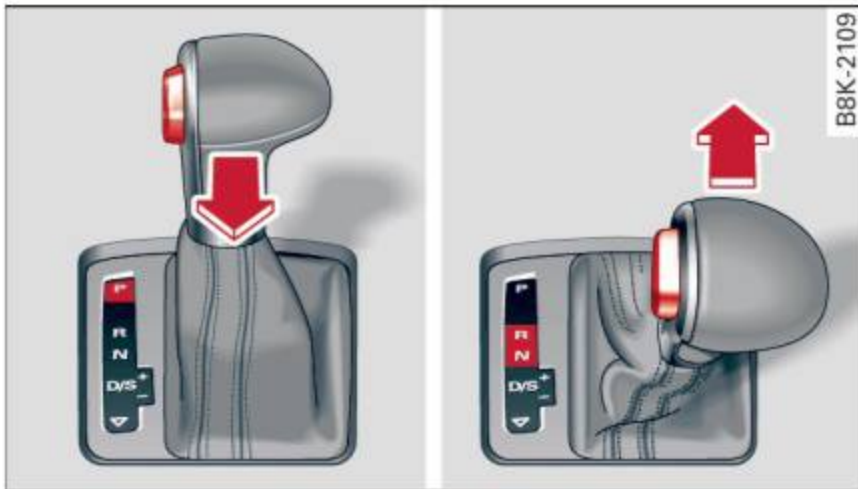

Fig. 87 Shift gate: selector lever lock positions and release button highlighted
- ▶ Step on the brake pedal. *At the same time* press and hold the release button on the side of the gear selector knob ⇒ *fig. 87* with your thumb until you have moved the selector lever to the desired position.
The release button on the selector lever prevents the lever from being accidentally shifted into certain positions. Depending on the direction of the shift, the selector lever locks at different positions. The positions are highlighted in the illustration ⇒ *fig. 87*.